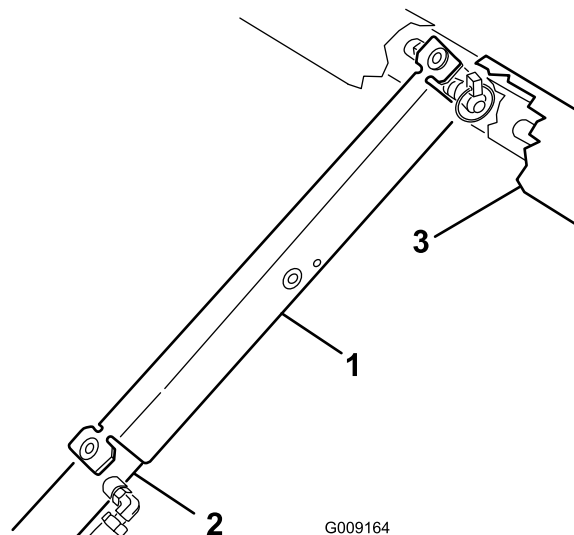

Figure 2
- C. Place the bed support onto the cylinder rod, making sure that the support end tabs rest on the end of cylinder barrel and on the cylinder rod end (Figure 2).
1. Remove the bed support from the cylinder rod and remove the support (Figure 2); refer to Preparing to Install the Kit.